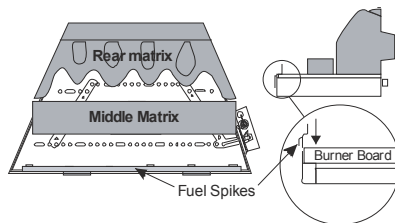

Figure 23
2. Place the **middle matrix** onto the burner board so that it keys into the triangular depression on the board (See **Figure 23**). Bring the **rear matrix** forward to touch the middle matrix
3. Insert the front fuel spike centrally between the board and the front of the metal tray (see **Figure 23**).